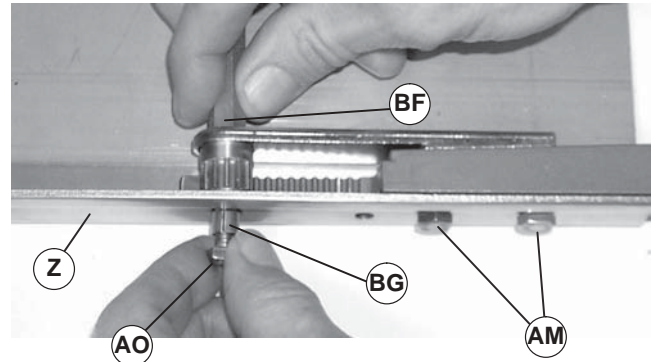

Figure 32
2. Remove M6 hex head cap screw (Figure 32, item AO) and sleeve (BG) from conveyor (Z) and hex pinion (BF).